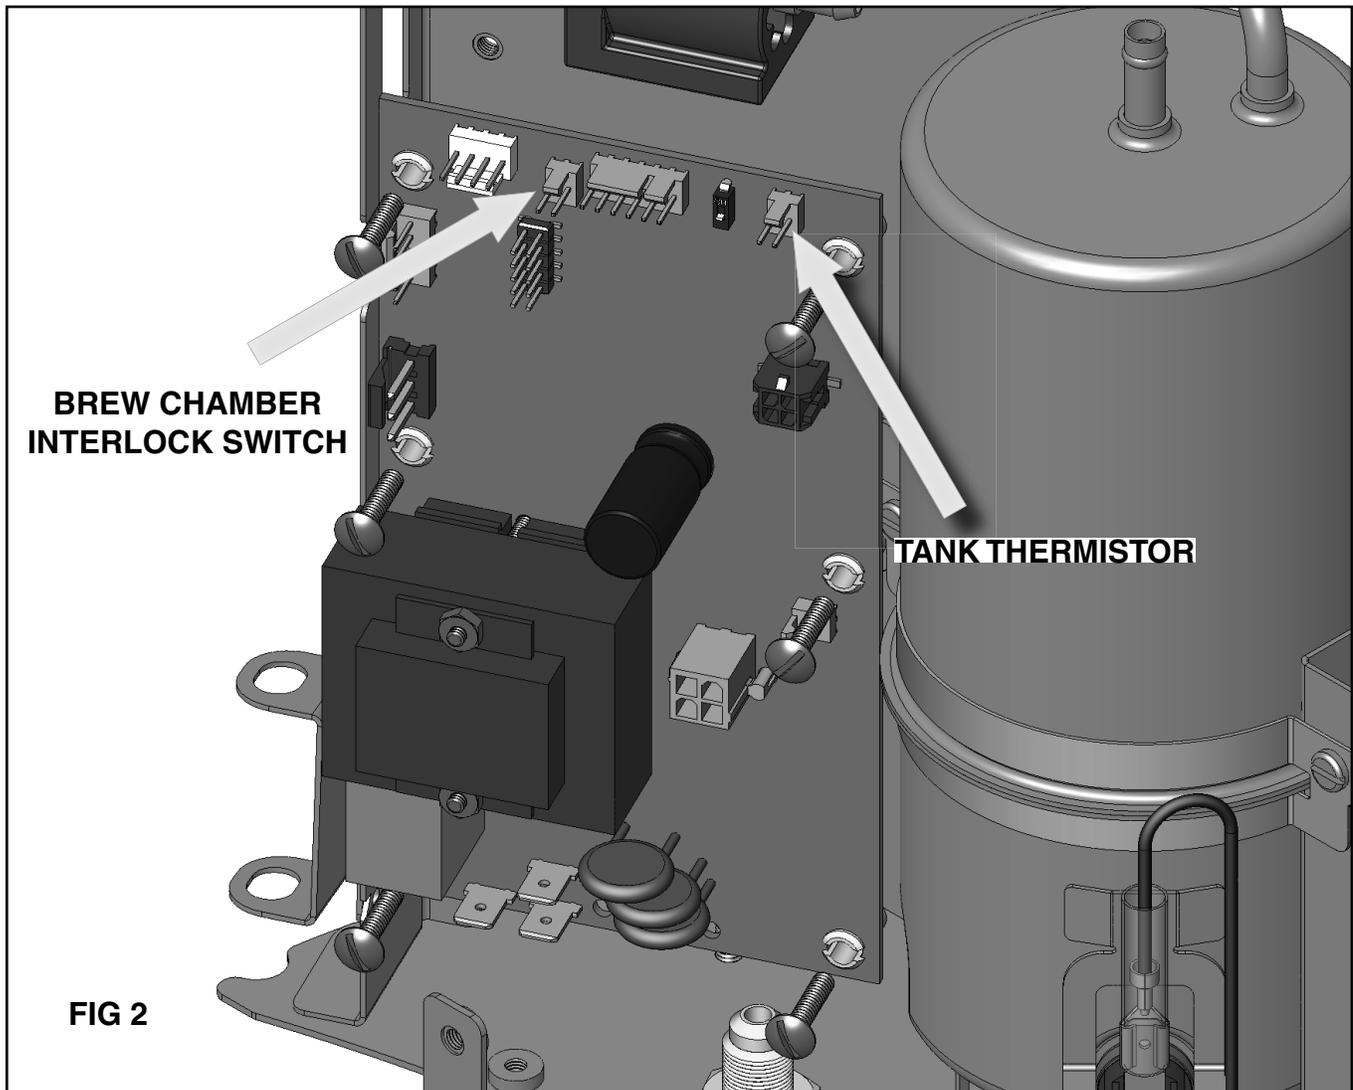

FIG 2
5. Reconnect harnesses. **NOTE: Be sure each harness connector is properly aligned on each board connector. See FIG 2 for the (2-pin) connectors.**